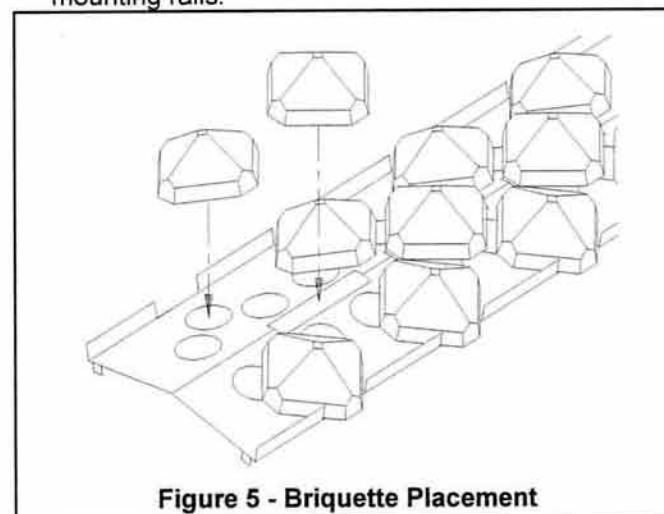

Figure 5 - Briquette Placement
- 2) Open bag of ceramic briquettes. Position briquettes on each of the baffles as shown in (**figure 5**).